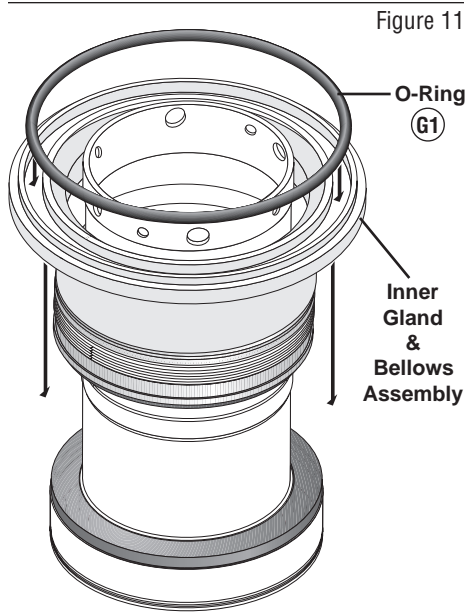

Figure 11
4.8 Place the inner gland/bellows assembly face down onto the sleeve/mating ring assembly. (Figure 11)
4.9 Install the inner gland O-ring (G1) into the face groove in the inner gland. (Figure 11)